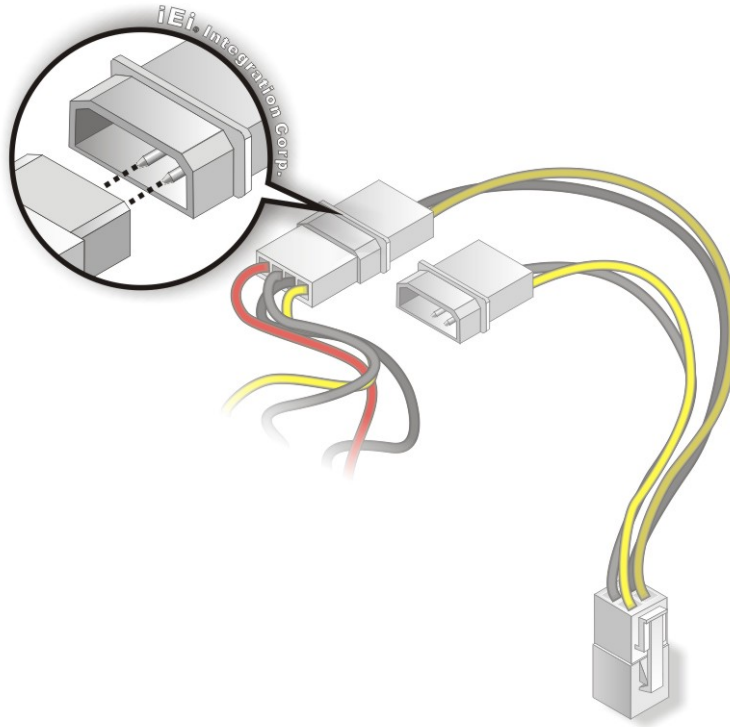

Figure 4-20: Connect Power Cable to Power Supply
Step 3: Connect Power Cable to Power Supply. Connect one of the 4-pin (1x4) Molex type power cable connectors to an AT/ATX power supply. See **Figure 4-20**.